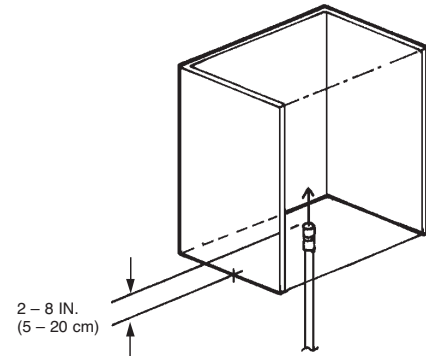

FIGURE 1
1. Nozzles must be located 2-8 in. (5-20 cm) into the center of the duct opening, discharging up. See Figure 1.